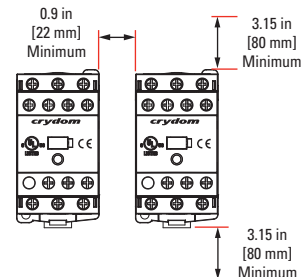

fig. 3 Multiple units mounting for maximum ratings
To achieve maximum ratings, there must be a minimum spacing of 0.8 in (22 mm) between the devices in free air and a minimum free spacing of 3.15 in (80 mm) at the top and at the bottom. (See **fig. 3**)
- (A) See compatible accessories in corresponding datasheet.
- (B) To achieve maximum ratings, there must be a minimum spacing of 0.8 in (22 mm) between the devices in free air and a minimum free spacing of 3.15 in (80 mm) at the top and at the bottom. (see **fig. 3**)
- (C) Normally Open (13 - 14) for DRC3xxx411 models and DRC3xxx420 models.
- (D) Normally Open (23-24) for DRC3xxx420 models, Normally Closed (21-22) for DRC3xxx411 models.
- (E) Not available for DRC3xxx400 models.